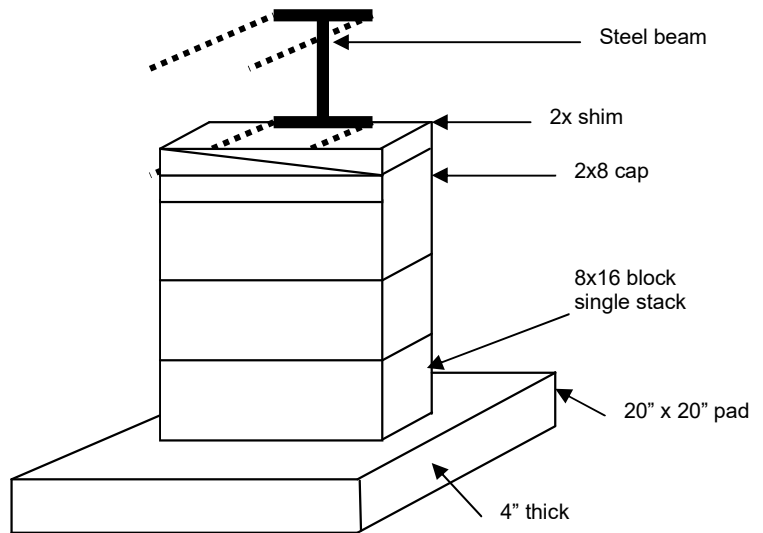

Figure 1
- If the support piers are 3 feet high or less, you can use a single stack. See Fig. 1.
3. The gap between the pier cap and the steel beam can be filled with wood that is not more than 2x material. See Figures 1 & 2.
4. The wood shims used to level the home must be 4 to 6 inches long and a maximum of 1½ inches thick. See Figures 1 & 2.